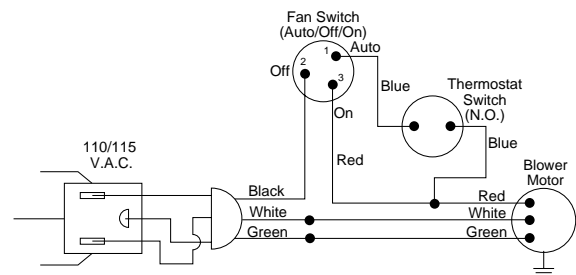

Figure 26 - Wiring Diagram For Blower Accessory Built-In Installation
4. A licensed electrician must follow the wiring diagram to connect incoming electrical supply to fan kit wiring harness (see Figure 26).